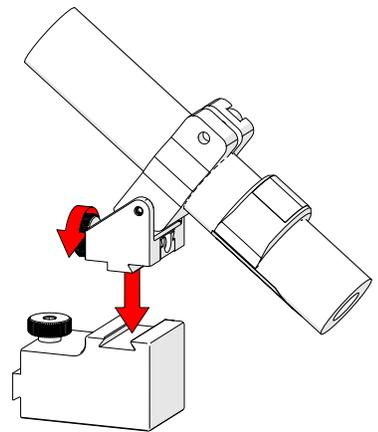

Fig. 78 - Attach 90° mount
1. Secure the battery powered optical guide to the perpendicular mount (Fig. 78).